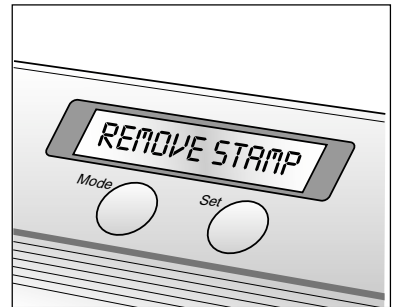

figure 7
- The message “REMOVE STAMP” appears in the LCD. Open the doors in the stamp compartment to remove the stamp (see figure 7).